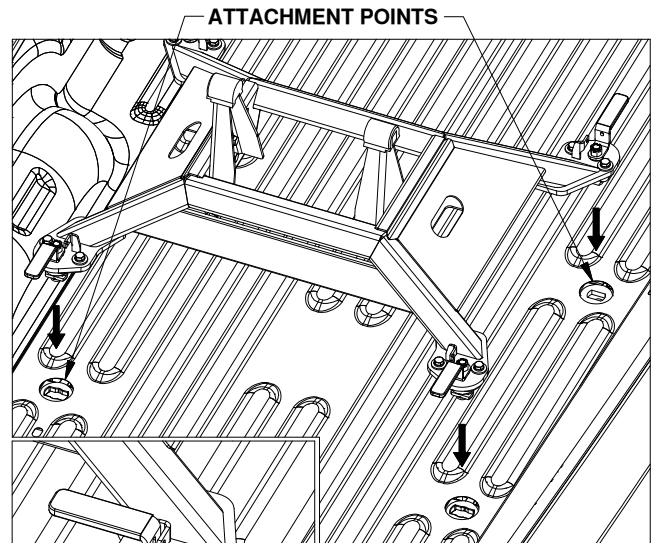
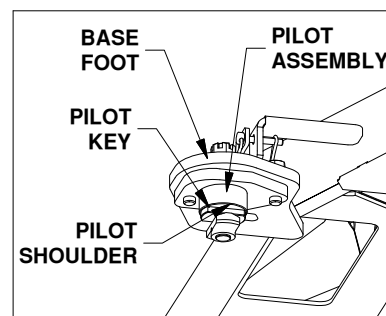
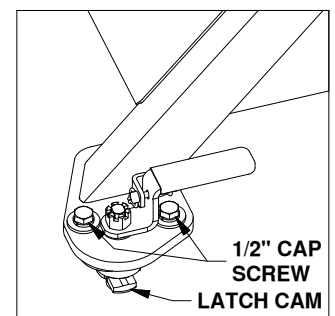

FIGURE C1:
FIGURE C3: View under base foot
FIGURE C4: View of a base foot.
1. The Companion base will mount to four attachment points in the truck bed. Remove any debris and/or obstructions from the truck bed, this includes any plastic caps which may be over the attachment points. Remove the latch pins from each of the four latching mechanisms on the base and rotate the handles out, see figure C1. Place the Companion base over the attachment points and carefully lower it until the pilot keys have passed through the slots in each attachment point and the pilot shoulders are resting flat against the top of the attachment points, see figure C3.
2. Each leg of the Companion base has an adjustable pilot assembly which is attached to the foot with two 1/2" cap screws, as shown in figure C3. To adjust the pilot assemblies that do not fit into the attachment points, loosen both the 1/2" cap screws so the pilot assembly can move freely, see figure C4. Set the base over the attachment points and adjust the pilot assemblies until the pilot keys pass through the slot in the attachment points and the pilot shoulders rest flat against the top of the attachment points. When all the pilot assemblies are aligned and inside the attachment points, push the base towards the cab and use a tape measure to verify that the base is approximately square with the truck bed. Tighten any loose cap screws to 80 ft-lbs.